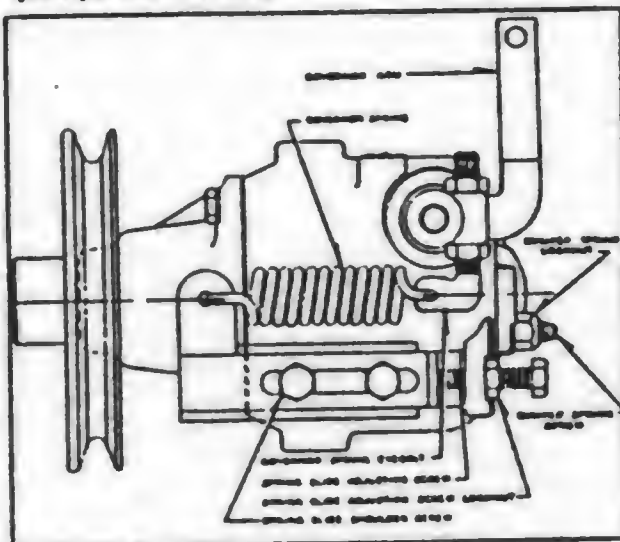

FIG. 33 ENGINE GOVERNOR ADJUSTMENTS
(1) With spring tension on the governor spring, Fig. 33, adjust the length of the throttle control rod so that the carburetor throttle lever clears the wide open stop by 1/64".
(2) Loosen the bumper spring screw locknut and turn that screw out far enough to prevent its functioning. Loosen the spring slide shoulder screws so the slide may move endwise. Start the engine. Loosen the spring slide adjusting screw locknut and turn that screw as necessary to obtain correct speed.
(3) If the governor surges under full or part load, adjust the governor spring eyebolt downward until surging stops. For close regulation, keep the governor spring eyebolt as high as possible without causing surging. Each time its adjustment is changed, readjust the spring slide adjusting screw for correct speed.
(4) If the governor surges at no load, turn the bumper spring screw in until surging stops, but not far enough to increase the engine speed.
(5) Tighten all locknuts and shoulder screws.